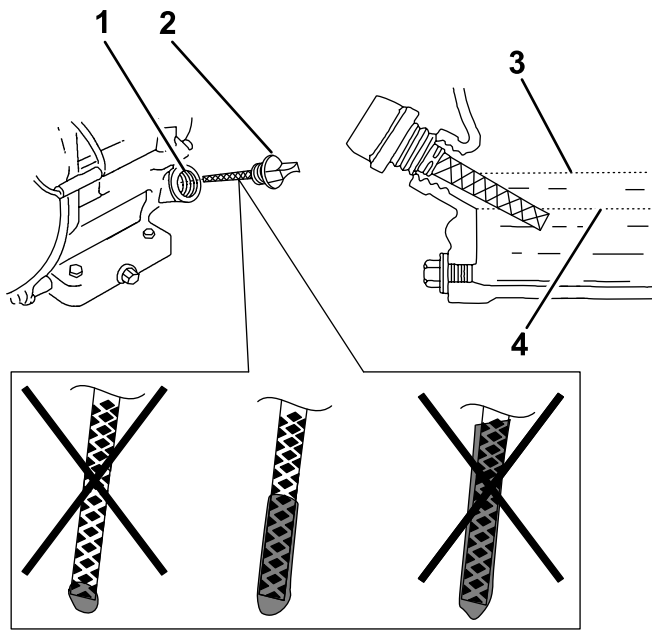

Figure 53
1. Remove the dipstick (Figure 53) and slowly pour oil into the fill hole until the oil reaches the upper-limit mark (bottom edge of the oil-fill hole) on the dipstick.